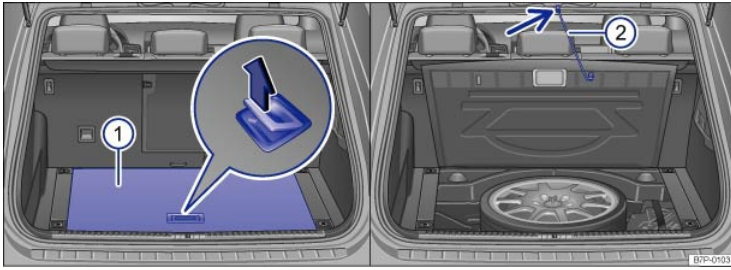

Fig. 103 In the luggage compartment: Lifting luggage compartment floor panel and securing it with retaining strap.
- Unhook the retaining strap ⇒ Fig. 103② from the top of the luggage compartment (arrow).
- Hook the retaining strap ② underneath the luggage compartment floor panel ① and lower the floor panel into place.